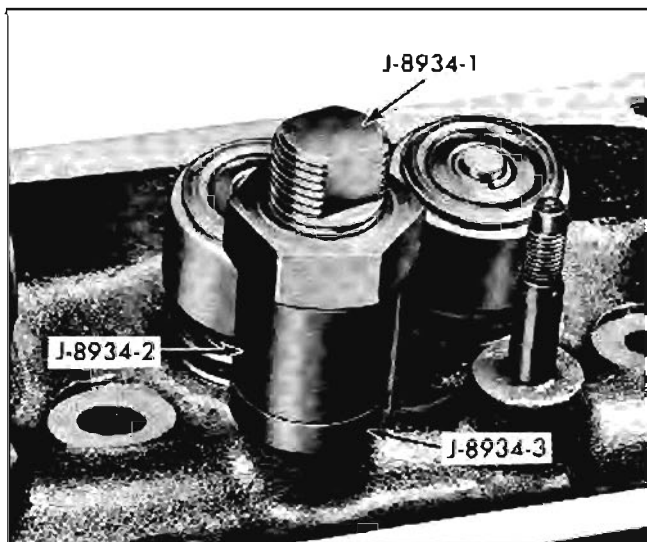

Fig. 6-28 Tools Positioned to Remove Rocker Arm Stud
6. Thread $\frac{3}{8}$ " standard nut on stud remover and turn nut until rocker arm stud is out of cylinder head (Fig. 6-28).